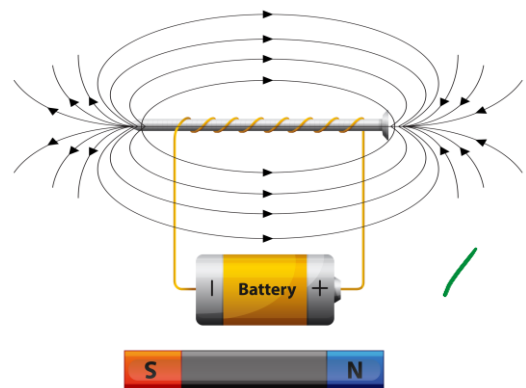

Figure 9
An electromagnet is a device that produces a magnetic field when a current is flowing through it. The construction consists of a core material such as a soft iron, it is used as the core because it enhances the strength of the field (Figure 9). The magnetic properties of the core material are described by a hysteresis loop, which shows the relationship between the magnetic force (H) and the Flux density (B). The soft iron material is used to minimise hysteresis loss due to it having a narrow hysteresis loop, this is important as a narrow hysteresis loop promotes easy switching between magnetisation states, meaning minimal losses. A coil made from insulated copper wire is wound round the core, the number of turns is directly proportional to the strength of the magnetic field. Finally, a DC power supply is used to generate a steady magnetic field, whereas an AC supply is used if you want a varying magnetic field, due to the shape of the AC waveform.